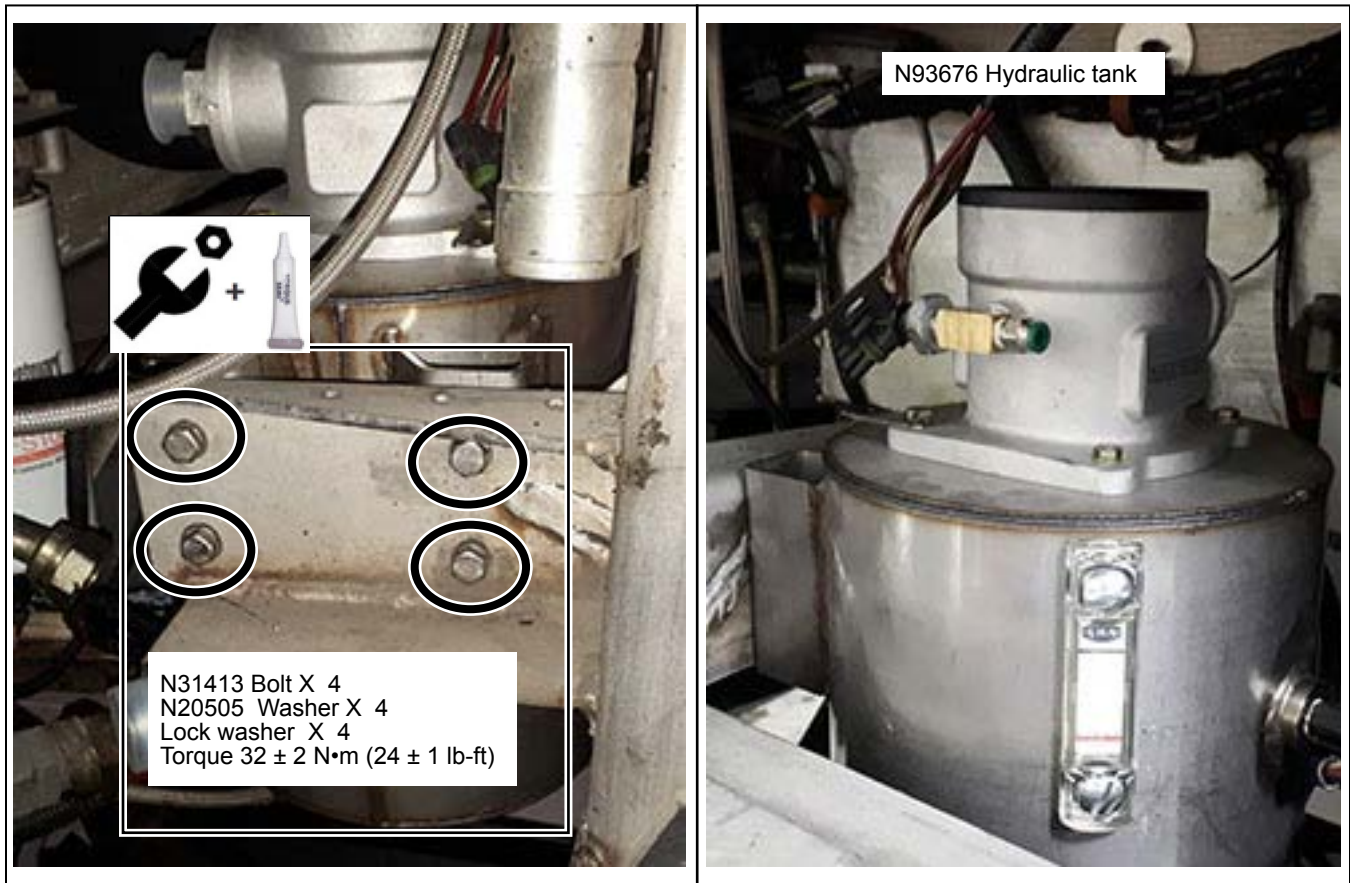

Figure 5 - N93676 Hydraulic Tank Installation
- 1.15. Affix the new N93676 hydraulic tank to the structure using N31413 bolts, N20505 washers and N28220 lock washers. See Figure 5.